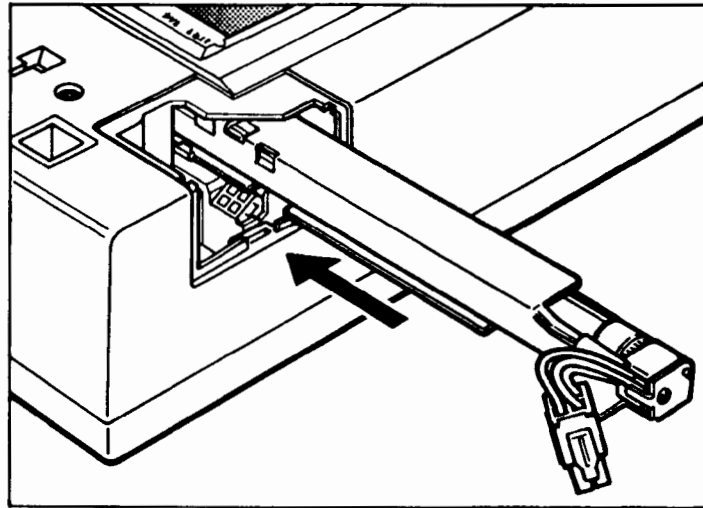

Figure C-15. Sliding In the Lamp Holder
14. Slide the lamp holder completely into the scanner. See figure C-15.